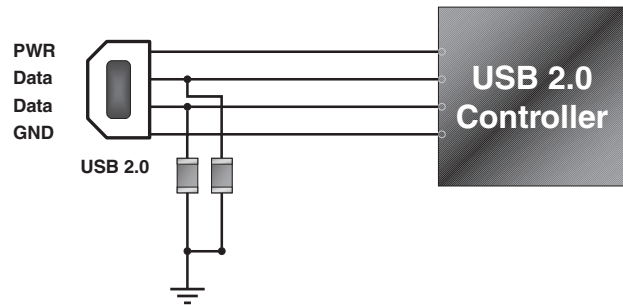

**Figure 2. The ESD Protection of Typical IEEE-1394a device with a PolySurg™ ESD Suppressor**
**Firewire:** The IEEE-1394 (Firewire) series are the newest serial ports for computer and other instruments with data transfer rates up to 1,600Mbps (1394a is 400Mbps, and 1394b will be 800~1,600Mbps.) This higher transfer speed data is more easily subject to distortion (Chart 3). The PolySurg™ ESD Suppressor can protect data lines from ESD without distorting the high speed signal possible from IEEE-1394 connection. All data lines should be protected individually. (See Figure 2)